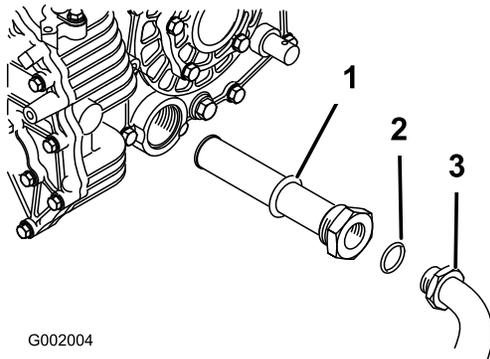

Figure 57
5. Remove the hydraulic hose and 90° fitting (Figure 57).